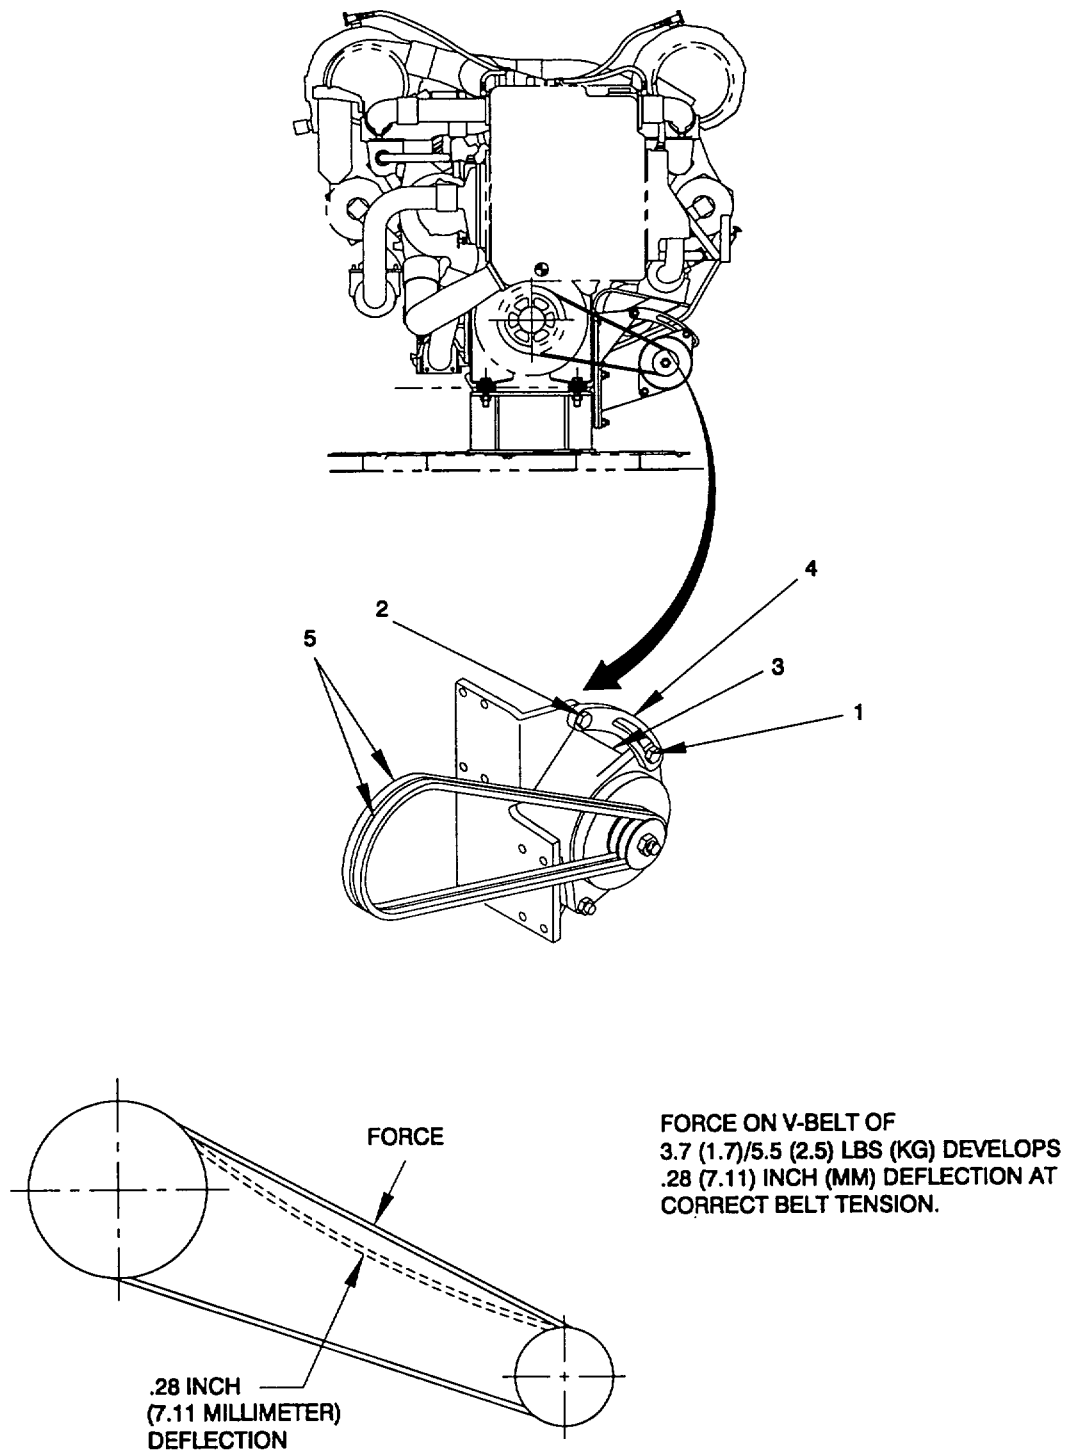
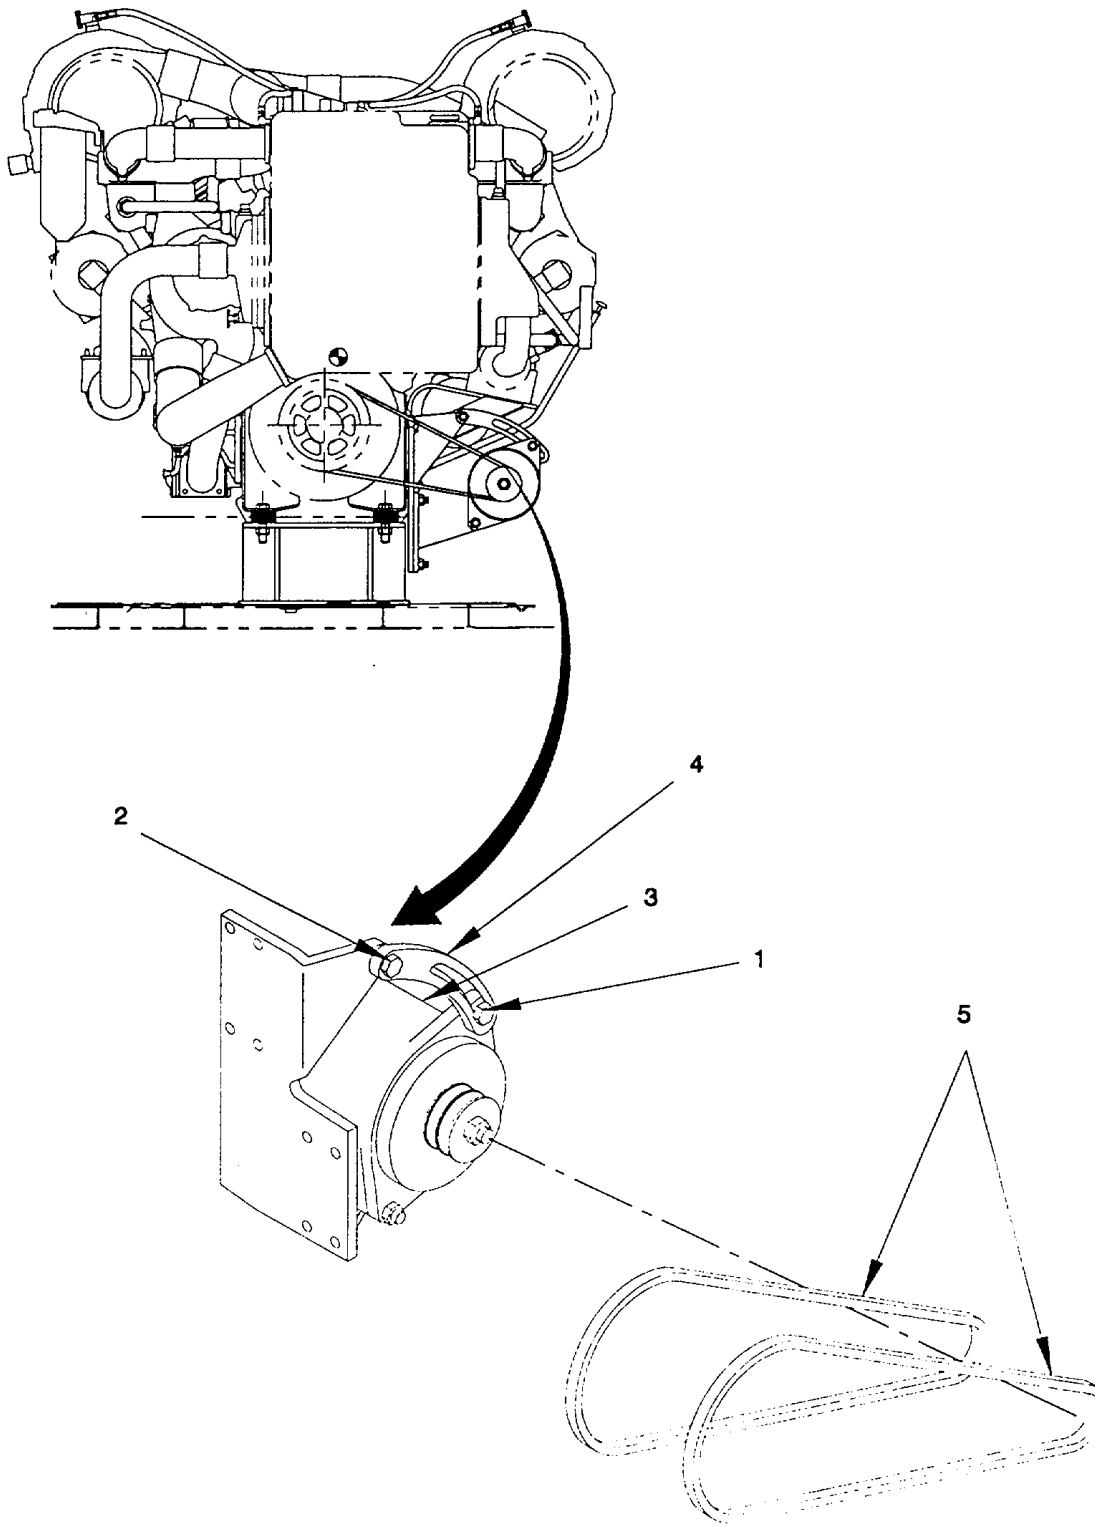

Figure 2-7. V-Belts, Adjust
Figure 2-8. V-Belts, Remove/Install
WARNING**When performing maintenance, the electrical system should be disconnected and tagged OUT OF SERVICE to prevent inadvertent operation. Failure to comply can result in serious injury to personnel.**a. Adjust. (figure 2-7)
- (1) Disconnect and tag electrical connections to the alternator and tag for installation.
- (2) Loosen capscrews (1 and 2). Rotate alternator (3) along the adjustment link (4) to tension the V-belts (5)
- (3) Tension V-belts with proper deflection as shown in Figure 2-7.
- (4) Once V-belt is properly tensioned, tighten capscrews (1 and 2) to 85 ft-lbs.
- (5) Reconnect electrical wiring previously tagged and removed.
b. Remove. (figure 2-8)
- (2) Loosen capscrews (1 and 2). Rotate alternator (3) along the adjustment link (4) and remove two V-belts (5)
c. Install. (figure 2-8)
- (1) Install two new V-belts (5).
- (2) Perform adjustment (step a).